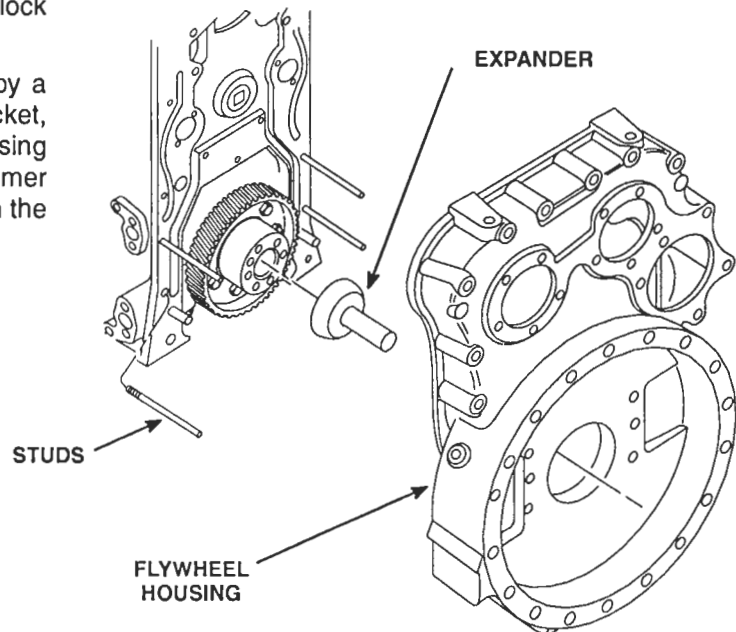

Figure 2. Flywheel Housing Removal and Installation
5. To guide the flywheel housing until it clears the end of the crankshaft, thread four pilot studs J 1927-01 into the cylinder block (Figure 2.)